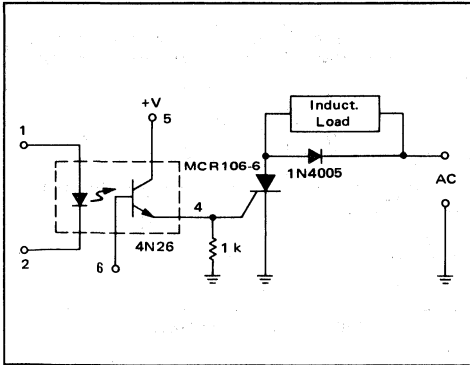

FIGURE 11 – Coupler-Driven SCR
| Bandwidth (3) ($I_C = 2.0\text{ mA}$, $R_L = 100\text{ ohms}$, Figure 11) | — | — | 300 | — | kHz |
Figure 11 shows a coupler driving a silicon controlled rectifier (SCR). The SCR is used to control an inductive load, and the SCR is driven by a coupler. The SCR used is a sensitive gate device that requires only 1 mA of gate current and the coupler has a minimum current transfer ratio of 0.2 so the input current to the coupler, I_F , need only be 5 mA. The 1 k resistor connected to the gate of the SCR is used to hold off the SCR. The 1N4005 diode is used to suppress the self-induced voltage when the SCR turns off.